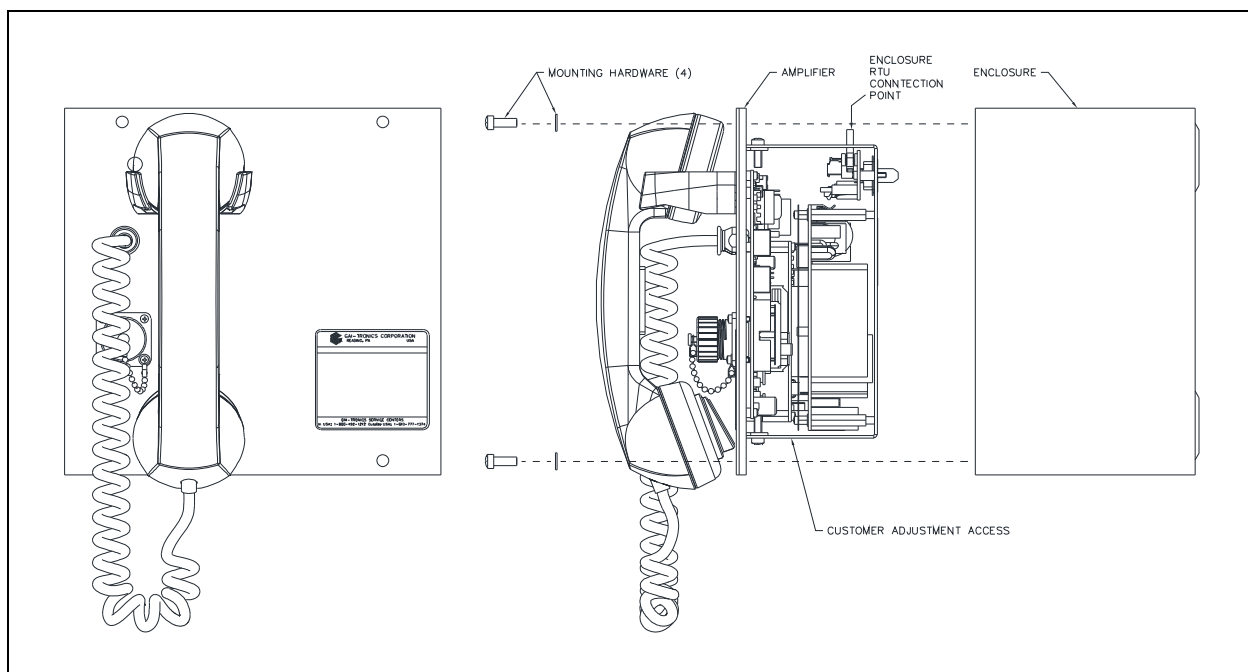

Figure 2. Installation Detail
ICS Page/Party ac plug-in amplifiers plug directly into the enclosure (see Figure 2). Use extra caution to prevent damage to the protruding latch wings of connector P6, located on the top right edge of the amplifier, during installation and removal.
2. Attach the amplifier to the enclosure with the provided hardware (see Figure 2).